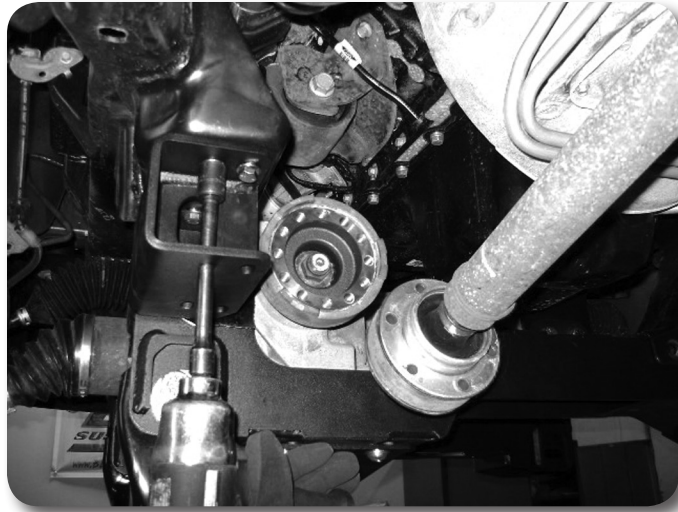

Figure 10
20. Install the front crossmember in the front lower control arm pockets and fasten with the original lower control arm hardware Figure 10. Run bolts from front to rear. Leave hardware loose.
22. Install the sway bar drop brackets with new 3/8" x 1-1/4" bolts, washers and nuts. Run hardware from bottom - up, snug but do not tighten at this time. Attach the crossmember 18mm nut with 3/4" USS washer. Figure 10, 11